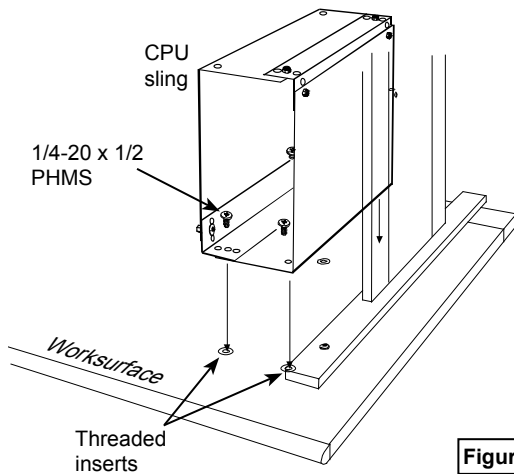

Figure 2A
1. Determine if the CPU sling will mount on the right or left side of the desk and align the top sling holes with the appropriate set of inserts. **Figure 2A-B** shows a sling being mounted on the left side of a desk.
2. Attach the sling to the worksurface using (4) 1/4-20 PHM screws and tighten.